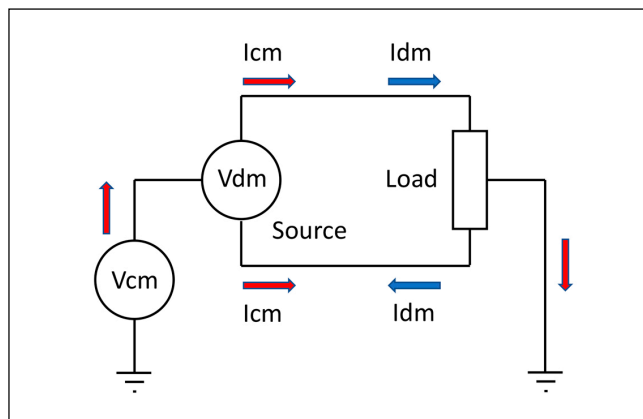

Figure 2: Types of noise that can be present
Conducted noise is of two types, Differential Mode (DM) and Common Mode (CM), which are usually present together at some level. DM noise is measured as a voltage between a power line and its return. CM noise is measured between both power lines and system ground and is normally recorded as a voltage across a defined impedance. This is because power converters tend to operate as a current source for CM noise at high frequencies. Figure 2 shows the two types diagrammatically.